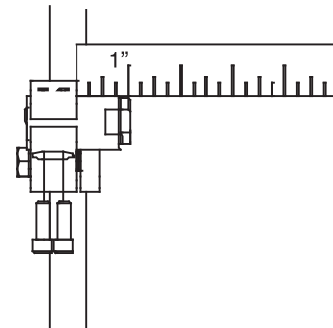

Figure 57
5. The amount of the camber plug that extends outside of the camber mount clamp affects the rear wheel spacing. The less of the camber plug that extends outside the camber mount clamp, the narrower the rear wheel spacing. The more of the camber plug that extends outside the camber mount clamp, the wider the rear wheel spacing. However, the distance from the camber mount clamp to the end of the camber plug should never exceed 1". Make sure the distance from the outside edge of the camber clamp to the end of the camber plug is identical on each side of the chair. See Figure 57.